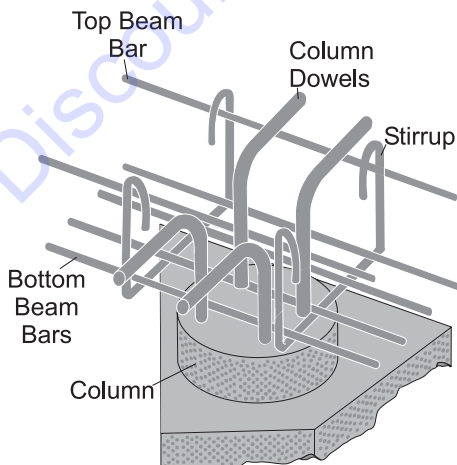

Figure 1. Columns
## REBAR BENDING APPLICATIONS (Figures 1 thru 4)
- 90° rebar (Figure 1) at top of column can be bent after forms have been removed